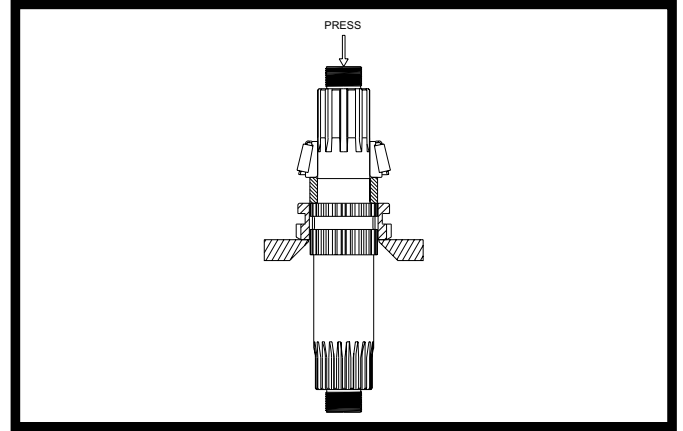

Fig 27
9. It is not necessary to remove the remaining bearing cone assembly unless it is to be replaced. If so, proceed as follows. Slip the clutch gear into place on the shaft against the spacer ring. Place the assembly in a press such that the face of the clutch gear opposite the ring is supported and the press arbor bears against the end of the shaft nearest the bearing. See Figure 27. Remove the bearing cone assembly and the ring.